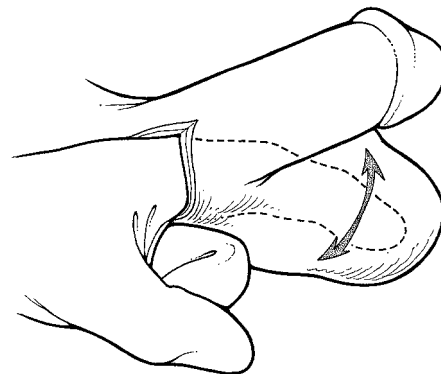

Figure 4-16a. Infrapubic: Bluntly Dissect
1. Use blunt dissection to form a pocket in the most dependent portion of the scrotum (**Figures 4-16a and 4-16b**).